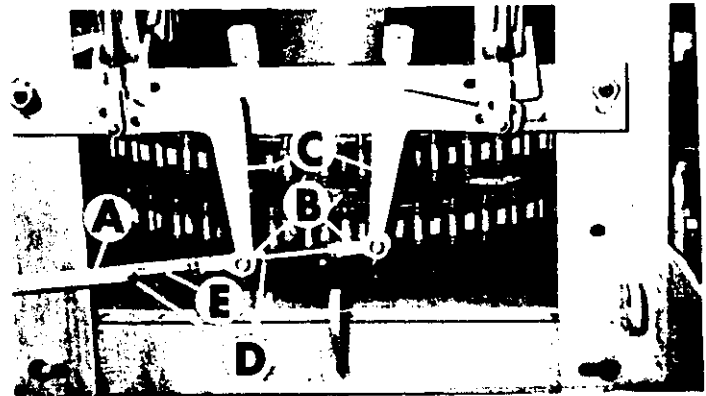
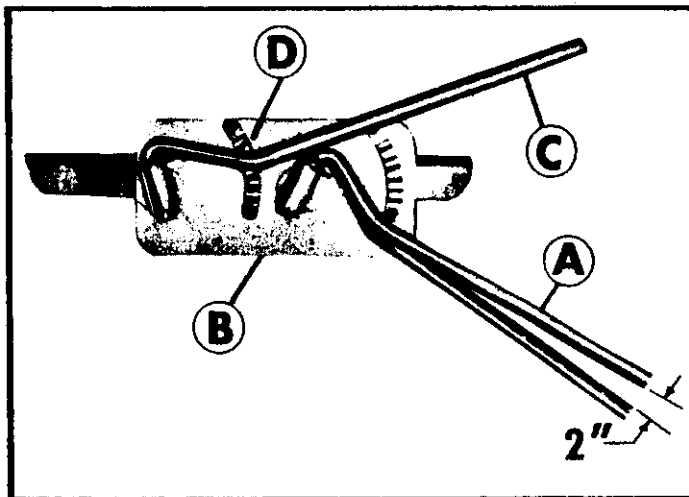

FIG. 2
FIG. 3
The clutch control rods (A) Fig. 2 are adjusted by removing the clutch control rod ends (B) from the levers (C) and, with the control handle (A) Fig. 3, on the control stand (B) in a position about two inches from the extreme back position as shown in Fig. 3 and with the clutch engaged, release the lock nuts (D) Fig. 2, adjust the clutch control rod end studs (E) in or out until the rod ends (B) align with the pins on lever (C). Complete the adjustment by mounting the rod ends (B) on the pins on levers (C) inserting the cotter keys and tightening lock nuts (D).